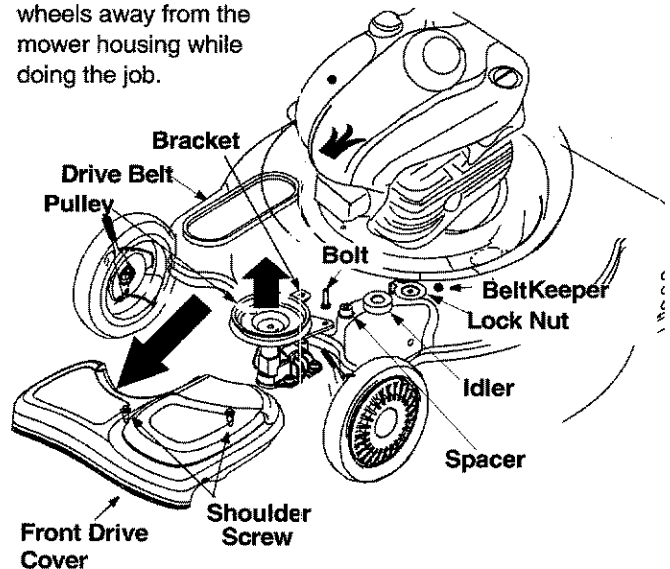

Figure 21
- Remove the two shoulder screws securing the front drive cover to the mower deck. See Figure 21.
- Remove the idler and hardware from idler bracket using 7/16" wrench and socket. See Figure 21.
- Remove the belt from the transmission pulley as shown in Figure 21